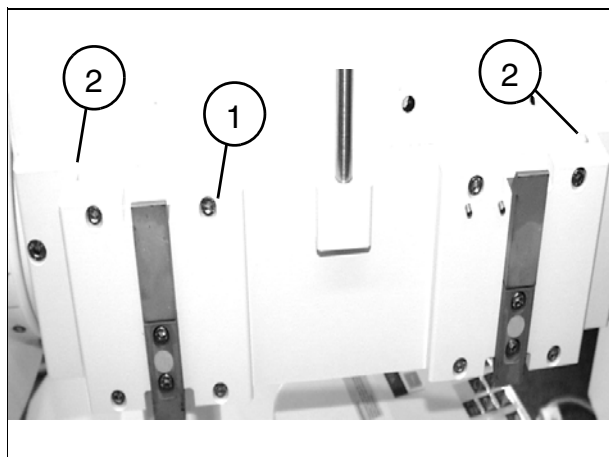

Fig. 10
- decouple the LITHOSTAR MODULARIS from the SIREMOBIL Iso-C and slightly loosen the eight screws (1/Fig. 10).
- Use the adjustment screws (2/Fig. 10) to adjust the support arm so that the ball is located in the cross-hairs (refer to Fig. 8).
- Once the iso-center is correctly set, couple the LITHOSTAR MODULARIS again and tighten the eight screws (1/Fig. 10) with a torque of 10 Nm.